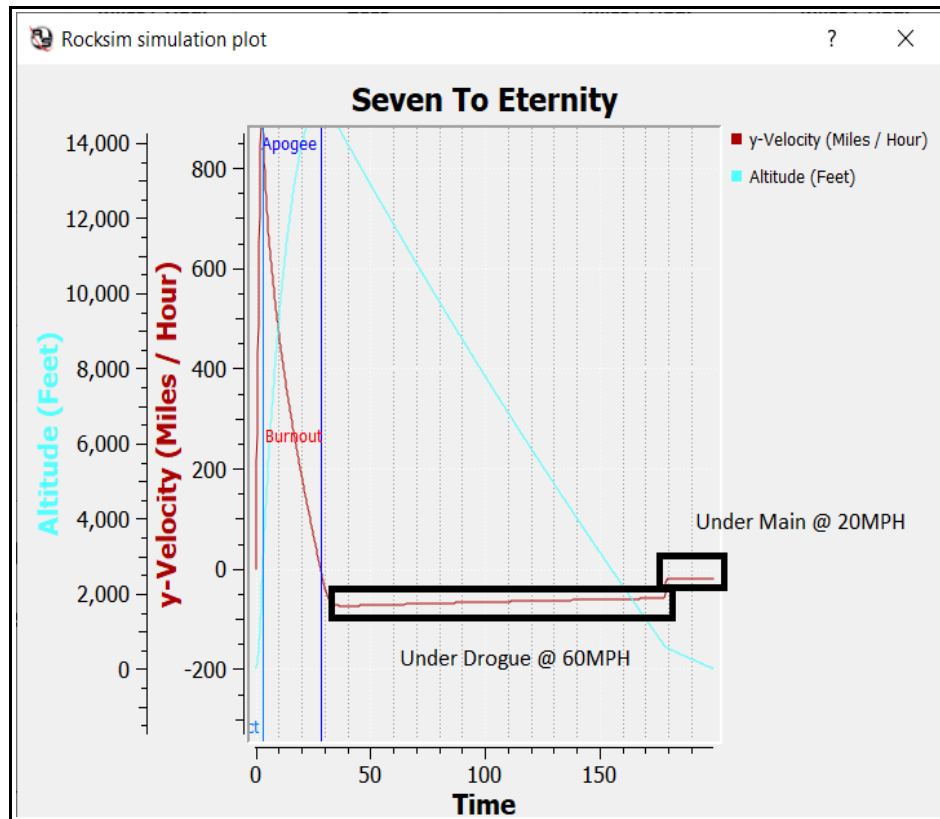

Fig. 26 – Velocity under drogue and main
- Estimates determined by RockSim see Fig 26